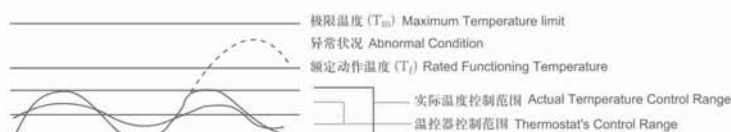

图 1 Fig.1
- 应用产品必须经过测试以确定当出现任何异常状况时都不会使温度保险丝周围温度超过极限温度 (Tm)，这种状况可能出现在一种称为“余热过冲”的状况下。例如：一个热风机在进风口或出风口堵塞时引起温度升高到 Tf，这时温度保险丝断开电路，但是，一个不正确的设计可能会引起装置提前开路和过度的余热过冲可能会损伤保险丝，应用产品须经测试以确定在正常的温度波动状态 (如温控器的动作与复位引起的加热器温度波动) 下，温度保险丝周围温度在温控器的通断循环中不会达到 Tm。(见图 1)
- The end product should be tested to ensure that potentially abnormal conditions do not exposed the thermal cutoff to the temperature exceeding its Tm. This condition may occur in an "overshoot" situation. For example, an air heater may be subjected to a blocked inlet or outlet condition on attaining its Rated functioning temperature, the thermal cutoff will open. However, an incorrect design may cause the premature opening of the device and excess overshoot may cause shooting or damage to the thermal cutoff. The end product should be tested to ensure that under normal cycling condition (such as cycling of a thermostat), the thermal cutoff never reaches its Tf during the "on" or "off" cycle. (see Fig.1)